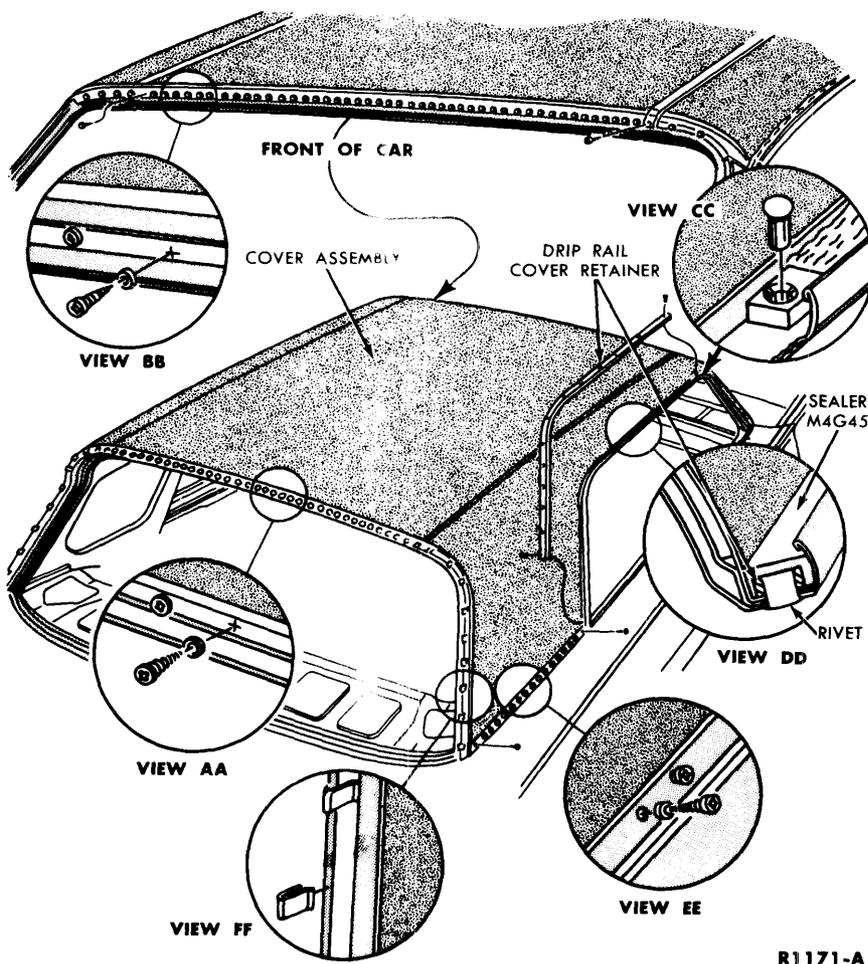

FIG. 70—Top Cover Installation
7. To remove the right and left hand drip rail cover retainers, first center-punch the peened rivet heads from the underside of the drip rails. Use a 3/16 inch drill and carefully drill out only the peened head of each rivet (Fig. 70—View DD). Use a small diameter punch to drive out the remaining portion of each rivet, but do not enlarge the rivet holes.
8. Remove the roof to quarter panel cover retaining screws (Fig. 70).
9. Remove the trim clips, drive nails and/or screws from the rear window flange (Fig. 70—Views AA and FF).
3. Using the existing holes in the header, secure the cover to the header with 6-32 x 3/8 inch pan head self-tapping screws and 0.156 ID x 0.375 OD flat washers (Fig. 70). After the cover has been secured,
1/16 inch flat washers (Fig. 70). After the cover has been secured, trim off any excess cover material.
5. The cover has to be secured at the back window pinchweld flange with 6-32 x 3/8 inch pan head self-tapping screws and 0.156 ID x 0.375 OD x 1/16 inch flat washers (Fig. 70).
6. Secure the cover to the sides of the back window pinchweld flange with (18) trim clips. Position the clips approximately 1-1/2 inches apart at the side of the pinchweld and 1 inch apart at the top (Fig. 70).
8. Install the drip rail cover retainers with 1/8 x 11/32 inch flat countersunk head aluminum rivets (Fig. 70).
9. Apply the proper sealer over the entire surface of the drip rail retainers (Fig. 70).